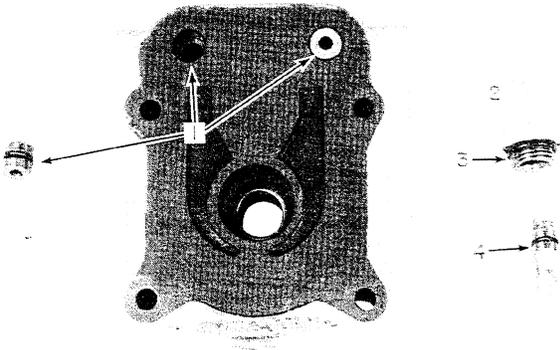

FIGURE 25
9. The charge check valves (1), Figure 25, can be removed by simply pulling them from the back plate with a pair of pliers. The charge check valve consists of a ball and pin retainer and is held in the back plate with an O-ring and back-up washer. The O-ring is installed next to the retainer pin end and the back-up washer on the ball seat end.
10. The tow valve can be removed as an assembly from the back plate. Removing snap ring (2), Figure 25, permits the removal of shaft (4) from separator plug (3).
- A. Inspect the charge check valve assemblies (1), Figure 25, for stuck balls, or damaged seats. The ball seats should be in good condition and the balls free to move. It is suggested that these charge check valves be replaced when repairing the transmission pumps.